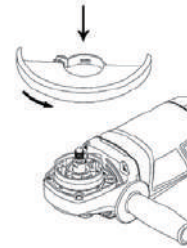

**Figure 1**
1)The auxiliary handle (1) can be fitted to the left or the right or the above. Select the position which gives the most comfortable and safe use.
2)Fitting the grinding guard or cutting guard: (See figure 1 and 2)